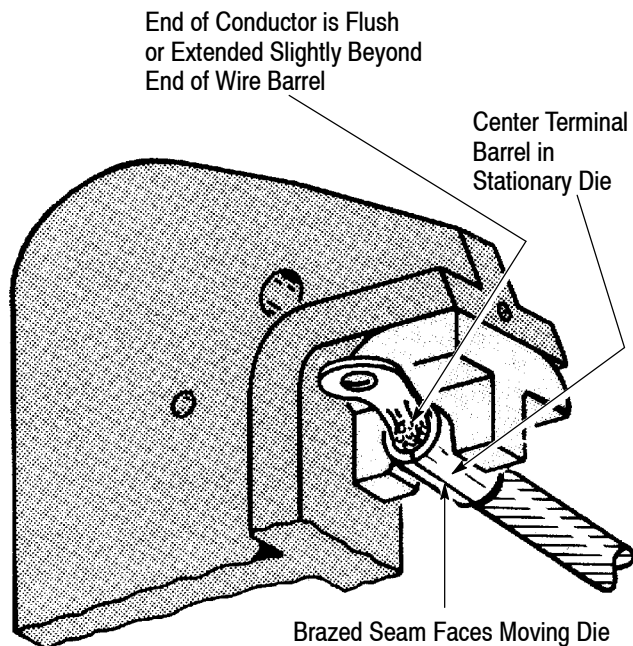

Figure 4
1. Place the terminal or splice in the stationary die as shown in Figures 4, 5, or 6. For best results, position the terminal or splice so that the brazed seam faces the moving die.